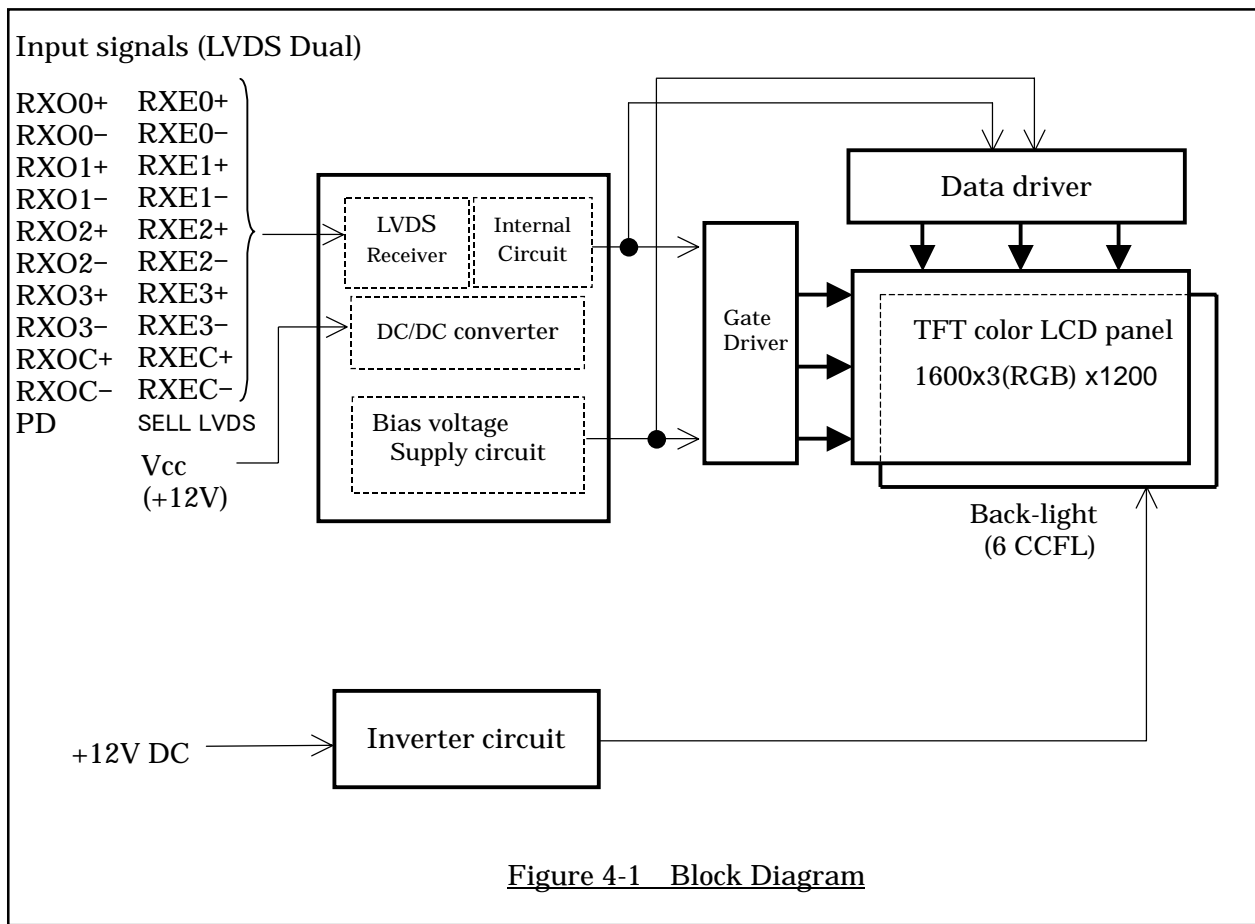

Figure 4-1 Block Diagram
4. CONFIGURATION This LCD module consists of a color TFT-LCD panel that is mounted with TFT driver ICs, a cold-cathode fluorescent tube back-light. The inverter for the backlight is included. Figure 4-1 shows a block diagram of this LCD module.